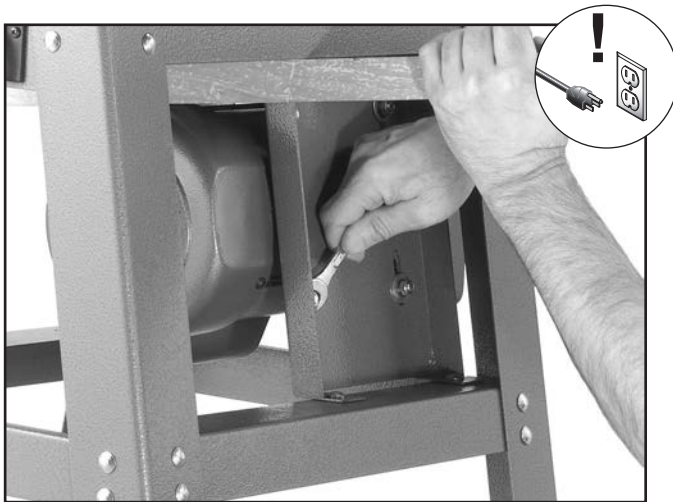

Figure 26. Tensioning Belt.
4. Tension the belt by prying on the motor assembly as shown in **Figure 26**.